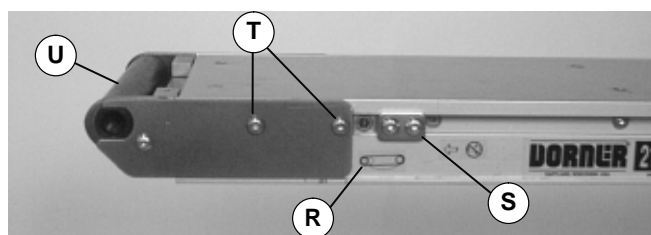

Figure 5
2. On tension end of the conveyor, identified with  label (R of Figure 5), loosen tracking cam assemblies (S) and cover plate screws (T) on both sides of the conveyor.
3. Slide the cam assemblies toward the center of the conveyor and push the end (U of Figure 5) into the conveyor frame.